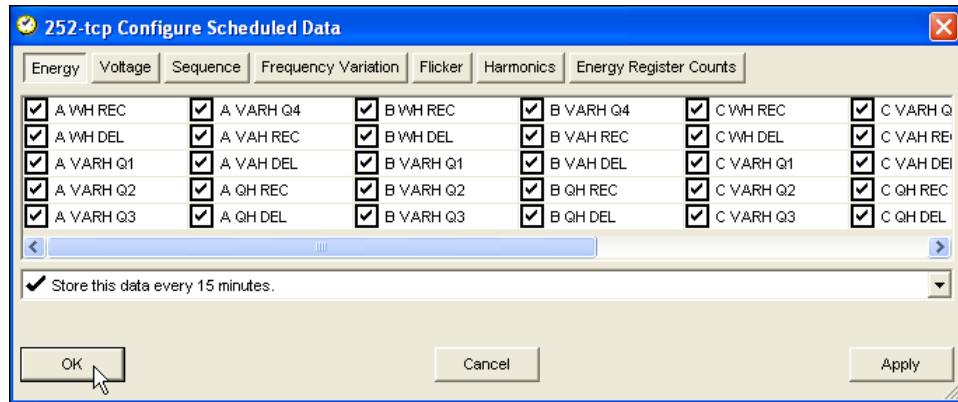

Figure 7.23: Configuring Scheduled Data Screen
2. From the main menu, select Connection > Configure > Scheduled Data or click the Configure Scheduled button to access the configuration window shown in Figure 7.23.